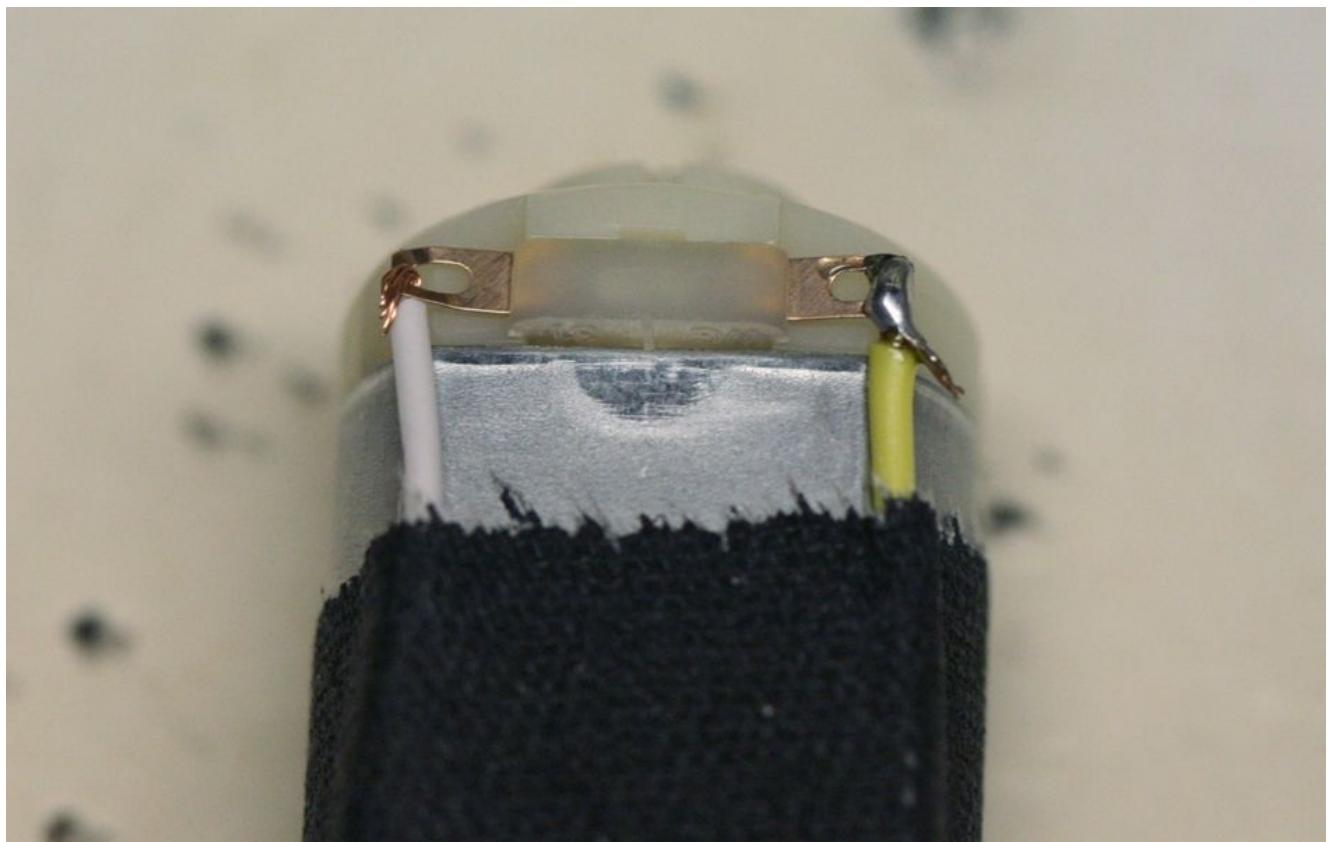

Figure 3-5. Soldering the wires to the motor
5. Solder the jumper wires to the terminals on the motor, as shown in Figure 3-5, keeping the jumper wires toward the outer edges of the loops. It doesn't have to be perfect, but later on you'll need to be able to fit the blue plastic clip that you set aside earlier on the end of the motor.